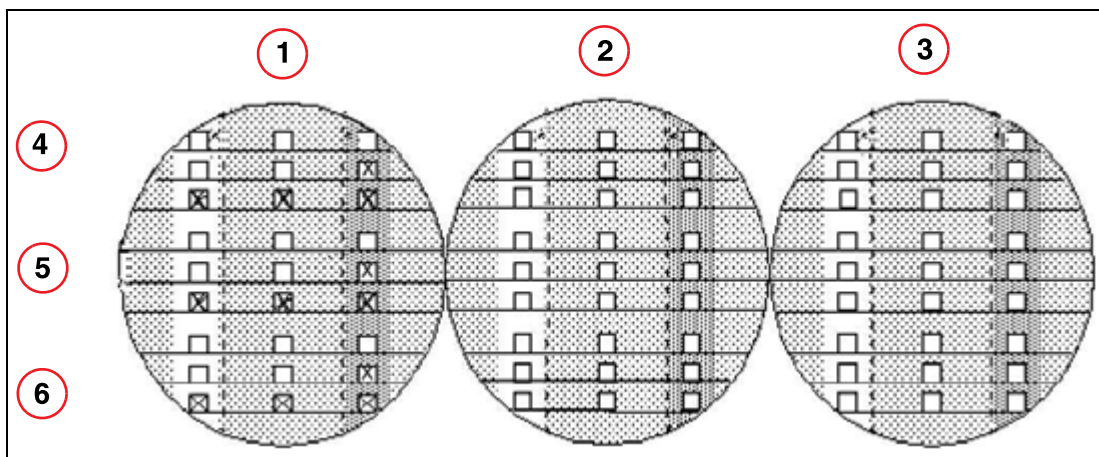

Fig. 3: Monitor image
- Check off non-visible plexi capillaries in \(Fig. 3 / p. 32\) (from left to right 2L - 1 - 5R).
- ➡ The plexi capillaries not identified in \(1 / Fig. 3 / p. 32\) must be visible.